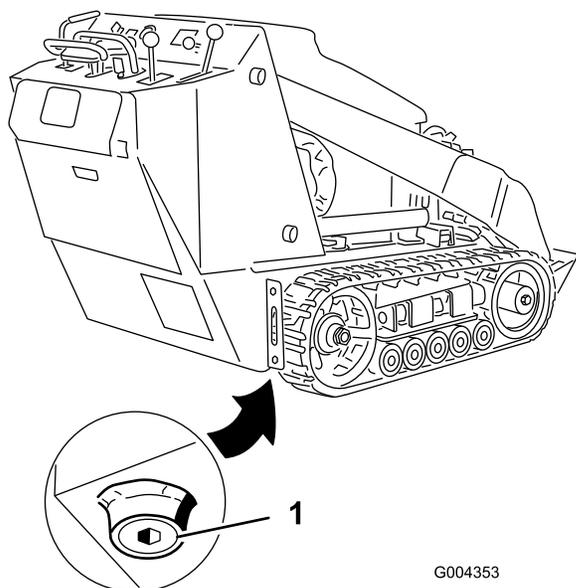

Figure 28
4. Remove the drain plug (Figure 28).